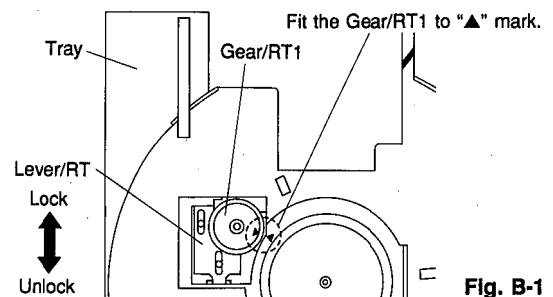

Fig. B-1
- 1) Slide the Lever/RT so that the Gear/RT1 becomes free. (Fig.B-1)
- 2) With the "▲" mark on the Gear/RT1 aligned with the same mark on the Tray, lock it with the Lever/RT. (Fig.B-1)